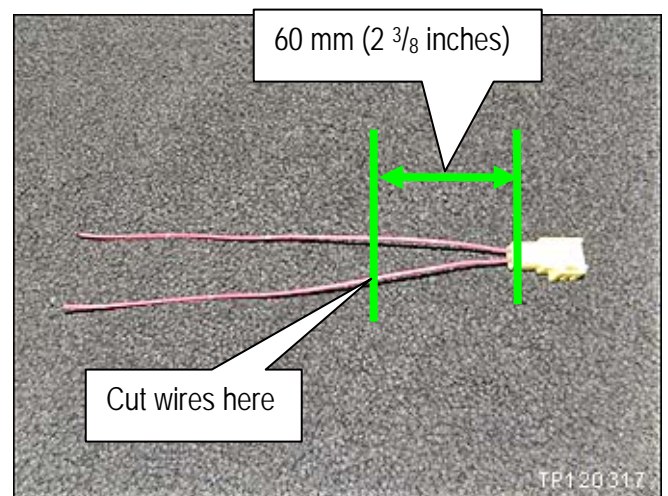

Figure CR14
- Cut the wires on the **new** SAB connector 60 mm (2 3/8 inches) from the back side of the connector (see Figure CR14).